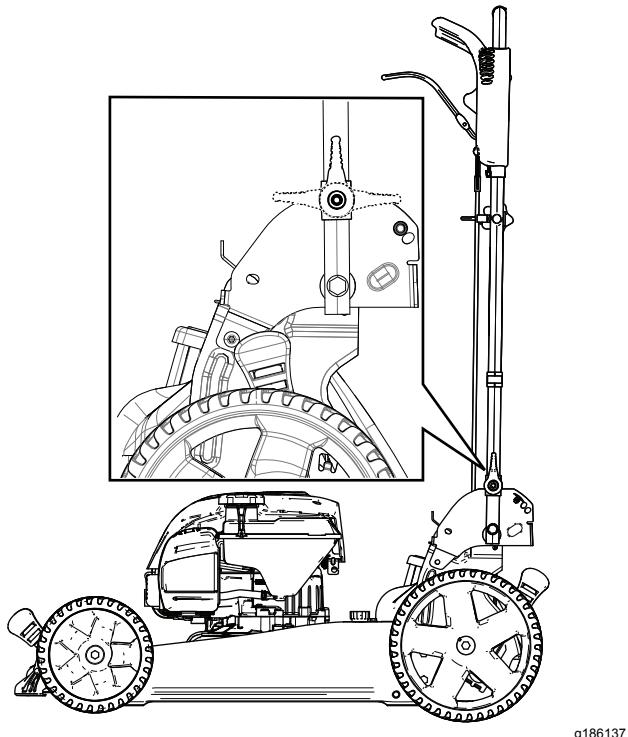

Figure 22
2. Fold the handle forward either to the vertical position or the fully forward position as shown in Figure 22.